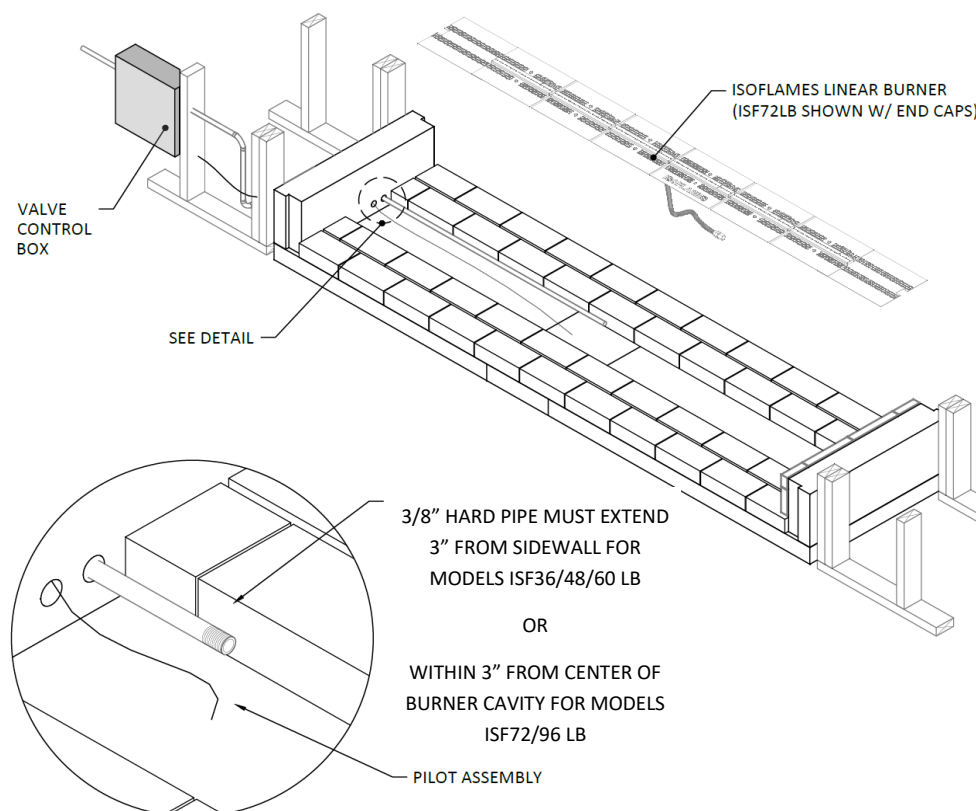

FIGURE 44
- 4) The 48", 60", and 72" Maximus Linear See-Thru fireplaces (82L48ST, 82L60ST, and 82L72ST) will require the ISF36/48/60LB (N/P) respectively: Gas supply piping for these models shall terminate not less than 3" from sidewall. (**Figure 44**)
- 5) The 96" and 120" Maximus Linear See-Thru fireplaces (82L96ST & 82L120ST) will require the ISF72/96LB (N/P) respectively: Gas supply stub piping for these models shall terminate within 3" from center of the cavity. (**Figure 44**)